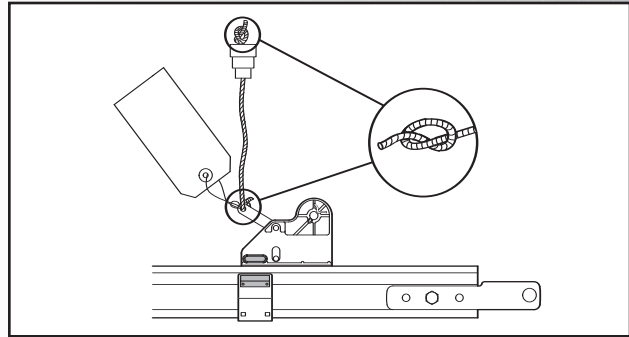

Fig. 1-8
11. Attach emergency release cord* and knob. Fig. 1-8.